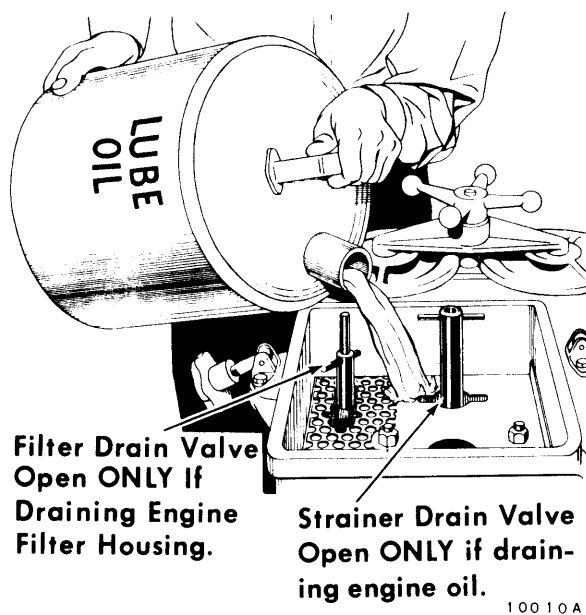

Fig. 2-6 — Adding Oil To Engine Through Strainer Housing
- Remove the square cap from the engine mounted lube oil strainer housing, Fig. 2-6.
should be above the full mark on the dipstick with the engine shut down. Start the engine and allow it to run at idle speed. Check the oil level at the dipstick. Add oil if necessary. See Fig. 2-6.